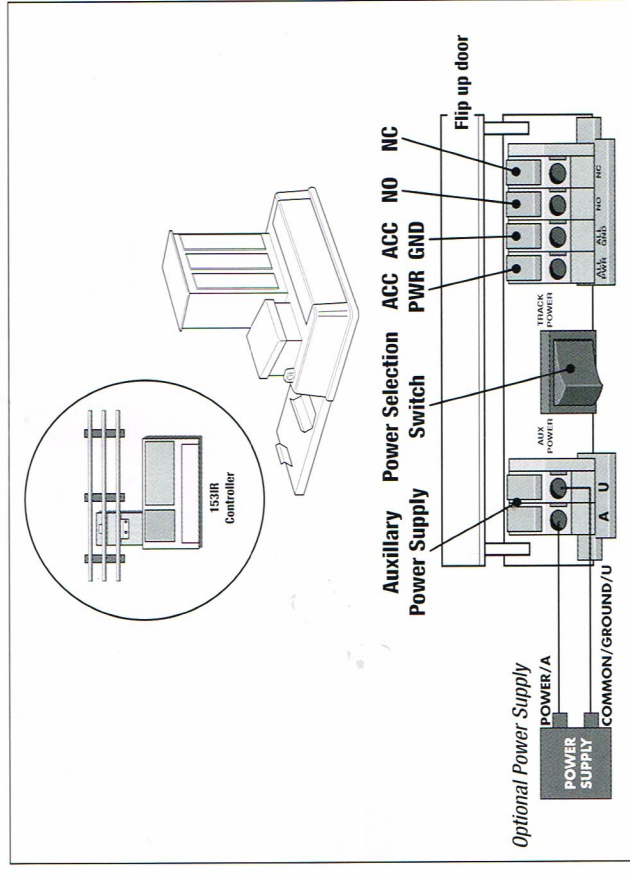

Figure 1. Lock-On attachment and switch location
1. To attach the 153IR Controller to the track, slide the bottom edge of the controller outside rail into the metal lip on the power Lock-On, then press the clip at the end of the Lock-On over the bottom edge of the inside rail. Refer to Figure 1.
1. To attach the 153IR Controller to the track, slide bottom edge of the outside rail into the metal lip on the power Lock-On, then press the clip at the end of the Lock-On over the bottom edge of the inside rail. Refer to Figure 1.
6. Set the rocker switch to the AUX POWER position. Figure 1 illustrates the location of this switch